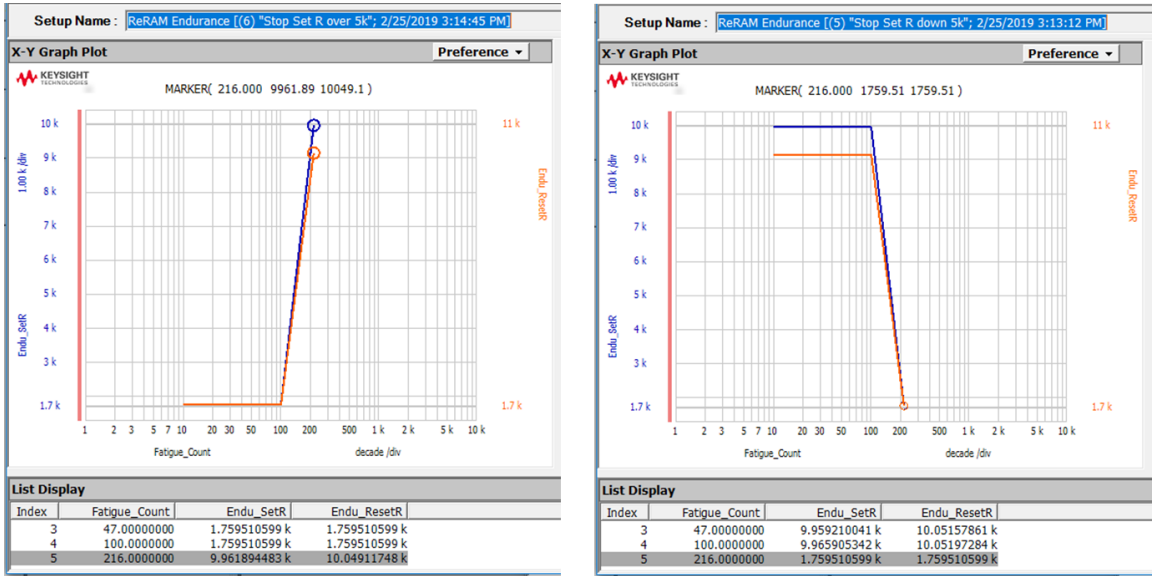

Figure 2-24. Endurance test example by "Stop by ..." condition. "Over" in right graph and "Down" in left graph.
- "Stop_by_ResetR": The endurance test can be terminated before reaching to the "Max_loops" if the data hits the pre-set test ResetR conditions. Refer to Figure 2-24, right side figure.
- "Stop_by_SetR": The endurance test can be terminated before reaching to the "Max_loops" if the data hits the pre-set test SetR conditions. Refer to Figure 2-24, left side figure.
Figure 2-24 shows such examples using the dummy test device.